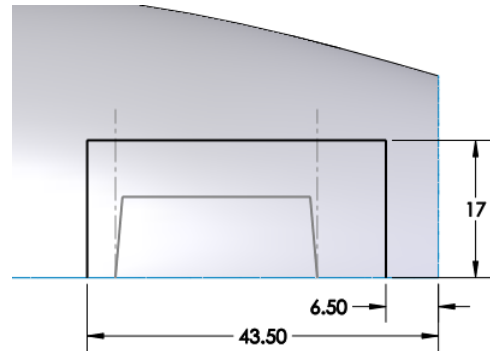

Figure 1-144 Sketch of the second section for creating the lofted surface of the handle
5. Create an open sketch, as shown in Figure 1-144, and exit the sketching environment.